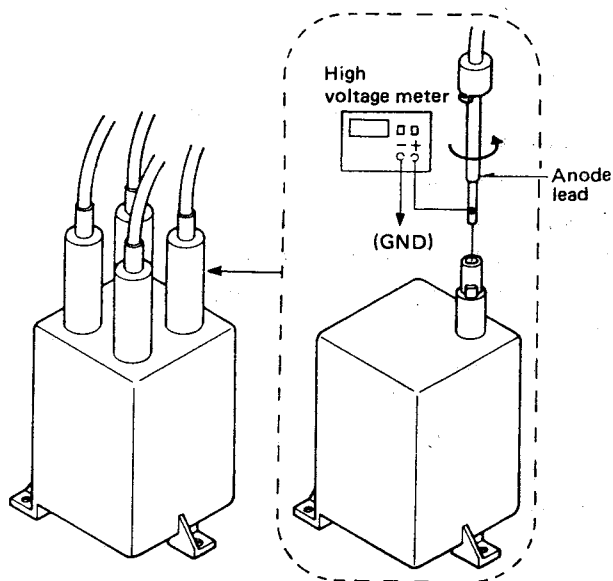

Fig. 1
- Connect the high voltage meter to anode lead of the distributor as shown in Fig. 1.